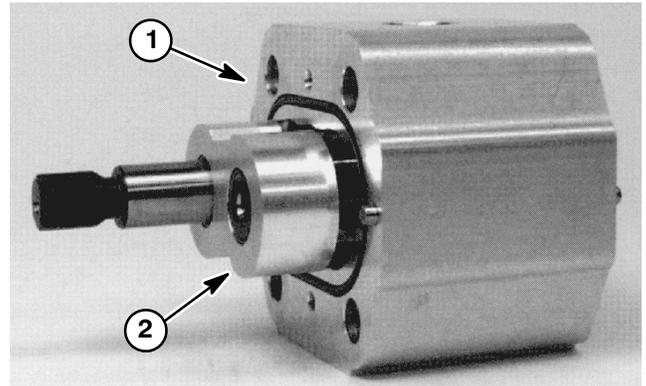

Figure 59
7. Place the motor on its side and push on the rear bearing block to remove the bearing block and gear set (Fig. 59).